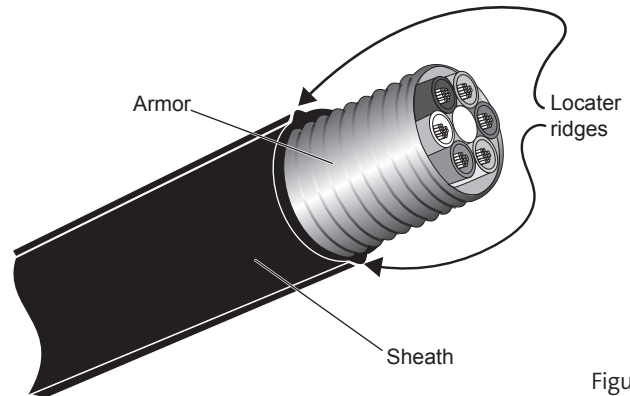

Figure 3
**Step 4:** At the end of the cable, locate the locator ridges which indicate the cable sheath's FastAccess® Technology features. These features appear as small longitudinal ridges on the cable sheath and are located 180 degrees from each other (Figure 3).